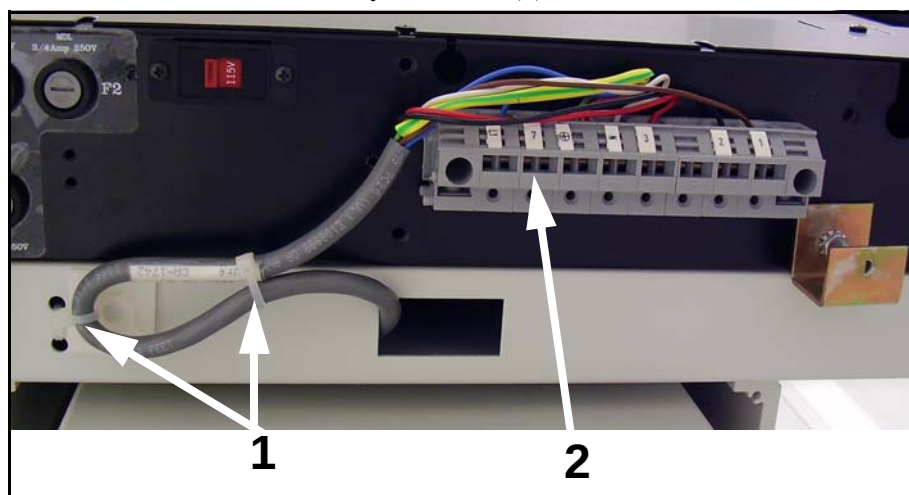

Figure 5-11. Bucky Terminal Connection
- 16** Cut cable ties (1 in Figure 5-11).